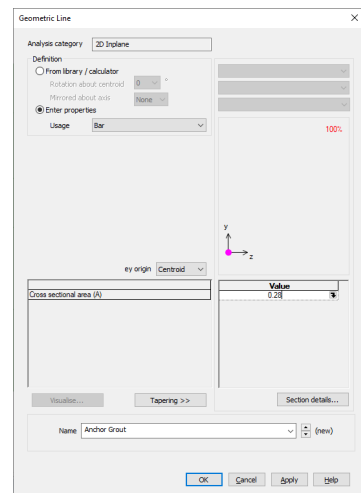

Figure 18: Anchor grout geometric properties
- Change the area to be **0.28** and change the name to **Anchor Grout** and click **Apply** (figure 18).